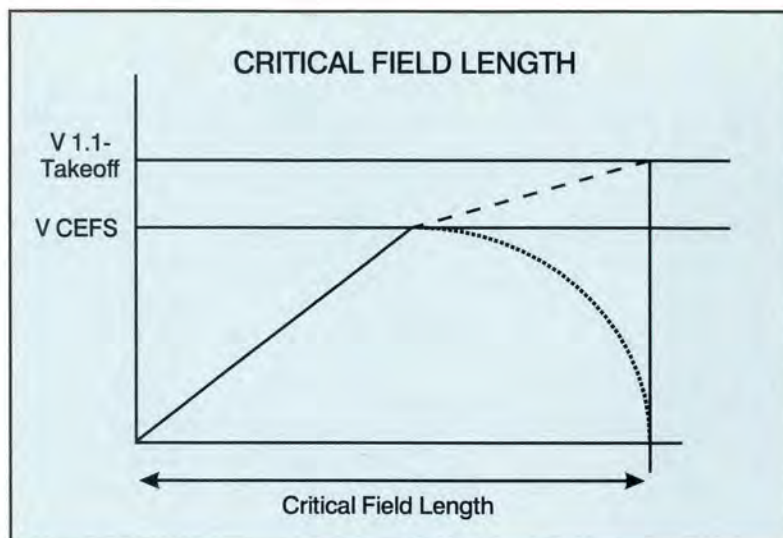

FIGURE 1
Since the Minimum Field Length for a "normal takeoff" is CFL, it would help to know that CFL is the distance required to accelerate on FOUR (4) engines to V (CEFS), lose an engine (zero thrust) and either STOP or CONTINUE the takeoff (accelerating to V 1.1 stall speed power off — (takeoff speed) — on the remaining THREE (3) engines in the SAME distance. See figure 1.